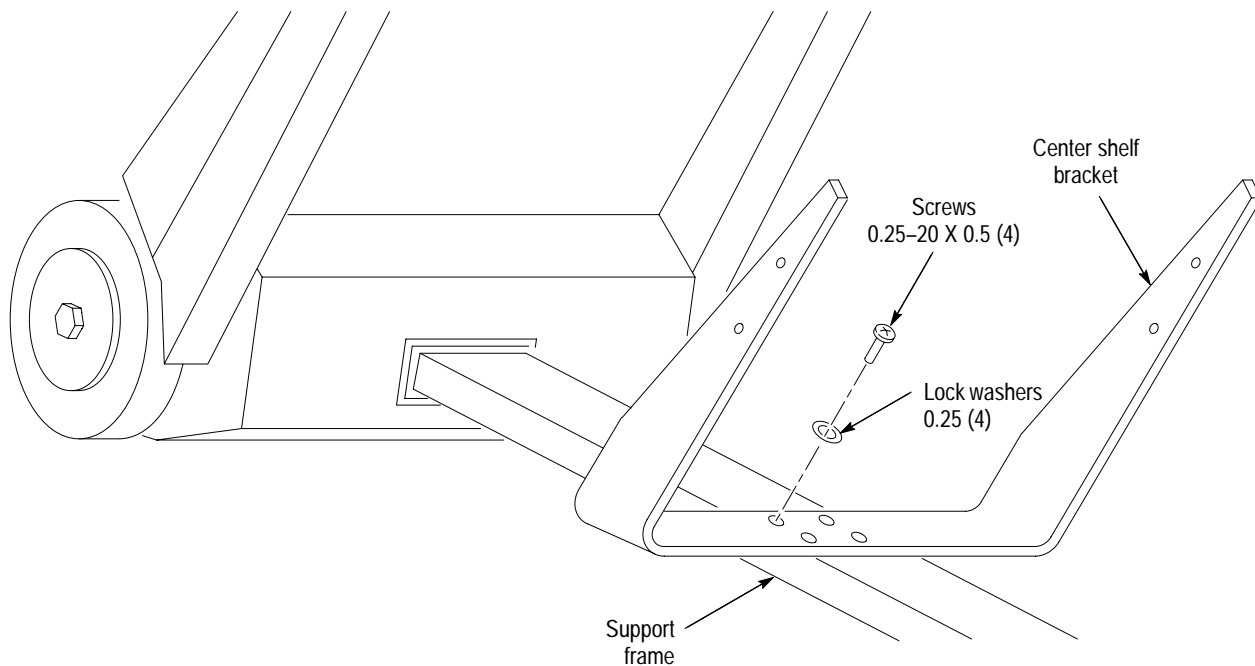

Figure 12: Install center shelf bracket
2. Lay the cart on its back so the support frame is parallel and near to the floor. See Figure 12.
3. Install the shelf bracket using the four screws and lock washers (provided with the shelf) as shown in Figure 12.